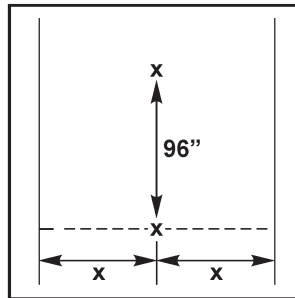
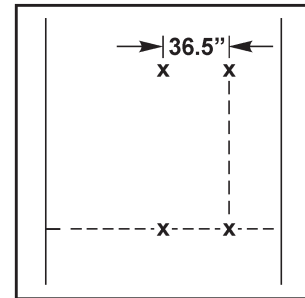
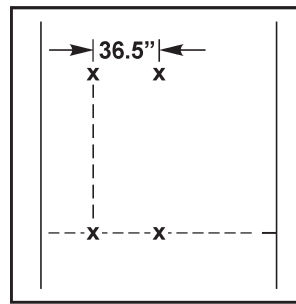

Figure 11
Figure 12
Figure 17
2. Find and mark the center of the lane at the base and 96 inches above the base (see Figure 11).
3. Measure 36.5 inches to the RIGHT of each point in Figure 11 and snap a vertical chalk line (see Figure 12).
- Measure and mark 36.5 inches to the LEFT of each center mark in Figure 11 and snap a vertical chalk line (see Figure 17).